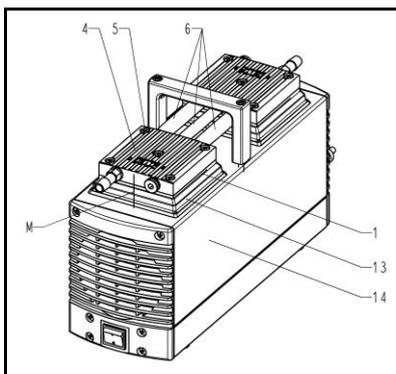

Fig. 4: Remove pump heads
- Position the pump head with the connection tubes (Fig. 4/6) so that the connection tubes are underneath the carrying handle (Observe mark **(M)**).
- Reinsert connection tubes (6) into the second pump head.
- Place the pump heads, together with the connection tubes, onto the housing (14).